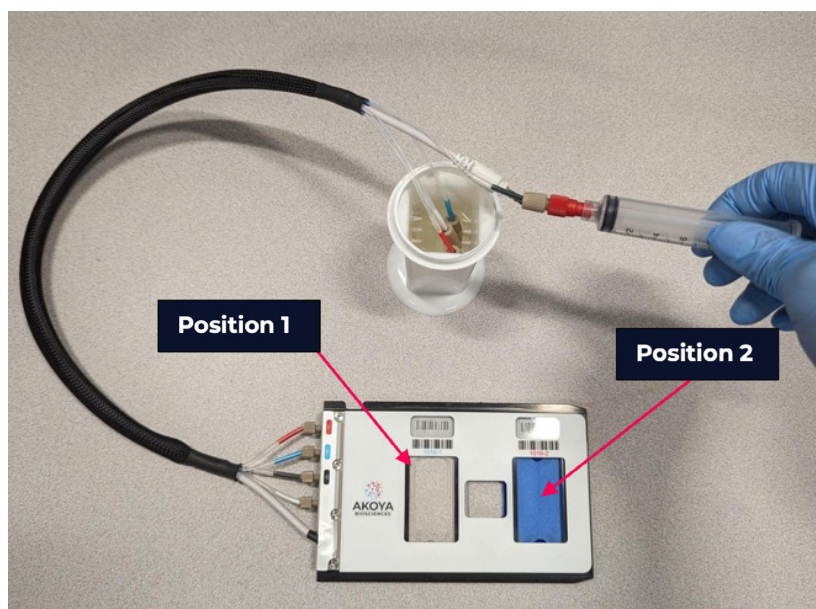

Figure C.1. Flow Cell Carrier connected to a syringe.
If large air pockets are still present after the 10-minute incubation during Flow Cell assembly, a manual syringe can be used to remove from individual Flow Cell samples one at a time. (See Figure C.1.) Most air pockets typically clear away during software pre-flight checks.
- a. Black is the outlet for position 1 in the Flow Cell and is the configuration shown in Figure C.1.